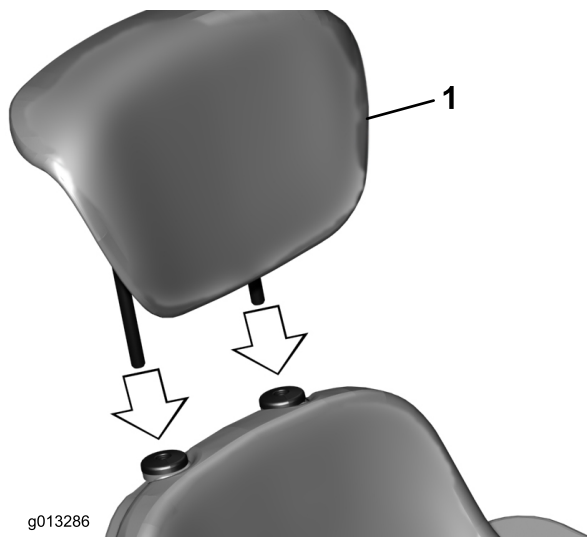

Figure 4
7. Insert the backrest extension tubes into the bushings and adjust to the desired height (Figure 4).